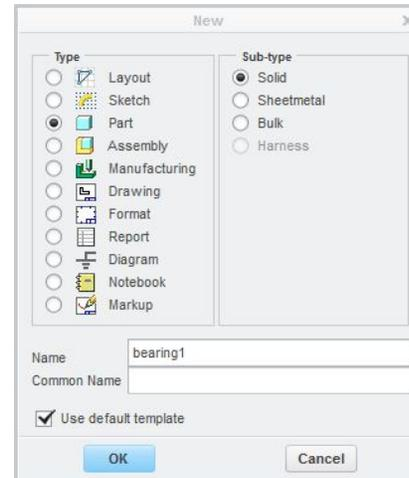
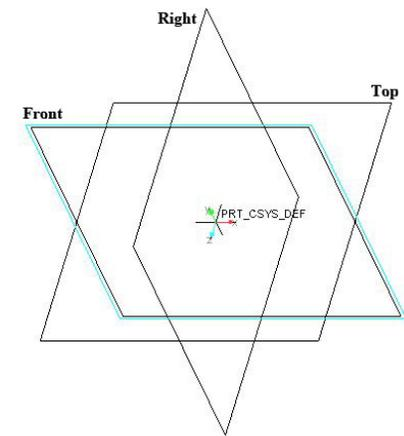

Fig. 2.27.
Fig. 2.28.
2. Open a new file.	<p>We will create the bearing as a solid part.</p> <p>FILE → NEW → Part → Solid → bearing1 → OK</p> <p>Refer to Fig. 2.27.</p> <p>In the graphics window, Creo displays the three default datum planes (FRONT, TOP, and RIGHT), and the default part coordinate system (PRT_CSYS_DEF) at the intersection of the three datum planes.</p> <p>Refer to Fig. 2.28.</p>